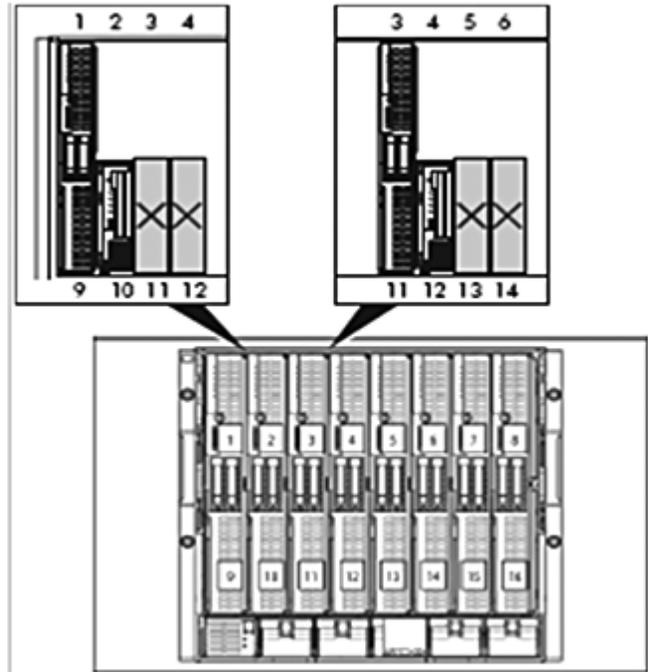

Figure 2 Installing a tape blade adjacent to a full-height server blade in a c7000 enclosure.
- Identify the partner server blade to be installed with the HP tape blade. The two blades always occupy a pair of slots, as follows: 9 & 10, 11 & 12, 13 & 14, 15 & 16 (see Figure 2).